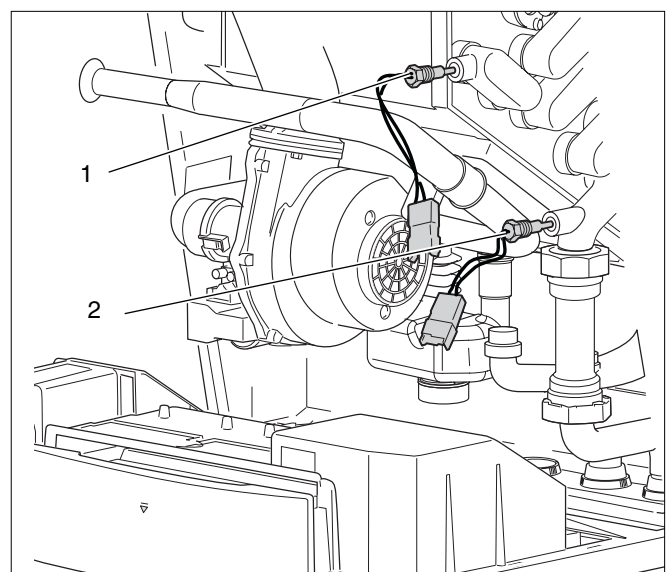

Fig. 55 Replacing the supply/return sensors
Supply sensor see fig. 55, pos. 1.
Return sensor see fig. 55, pos. 2.